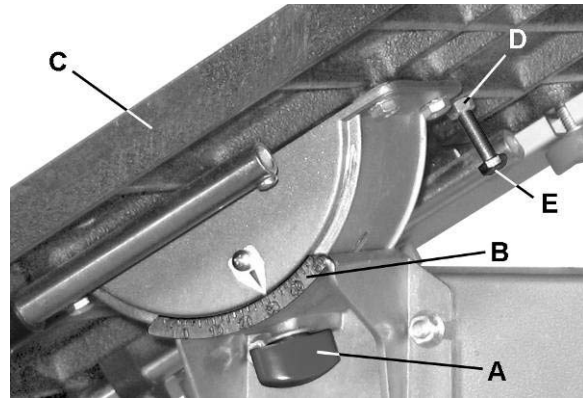

Figure 7
Referring to Figure 7:
The *table stop* (E, Fig. 7) is typically set to stop the table at 90° (perpendicular) with the blade.
2. Loosen *lock knob* (A, Fig. 7); then tilt the *table* (C, Fig. 7) down, bringing it to rest against the *table stop* (E, Fig. 7).
4. If an adjustment is necessary, tilt the *table* up to access the *table stop* (E, Fig. 7).
5. Loosen the *jam nut* (D, Fig. 7) and turn the *table stop* (E, Fig. 7) in or out to raise or lower the stop. Tighten the *jam nut* to hold the *table stop* in place.
For left tilt down to 5°, the *table stop* (E, Fig. 7) must be adjusted further.